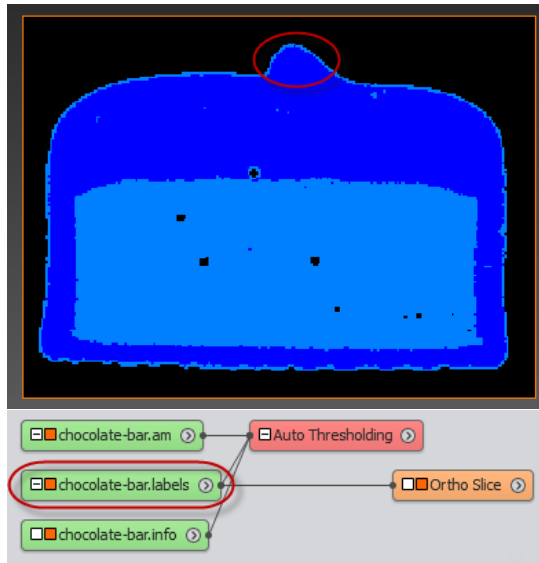
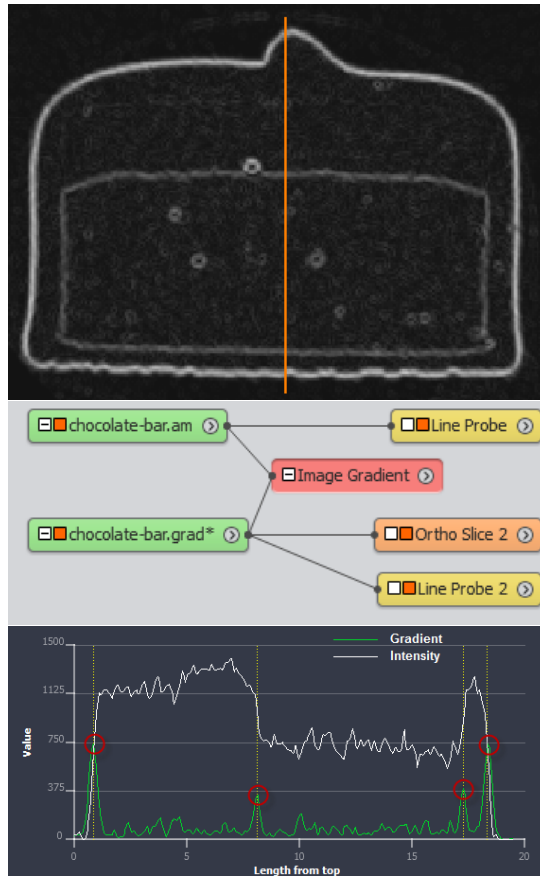
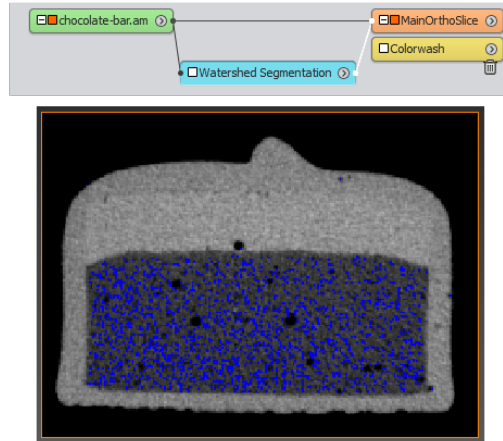

Figure 6.68: Automatically segmenting the image with *Auto Thresholding*.
Figure 6.70: The peaks of *Image Gradient* help to better locate the phase boundaries
Figure 6.75: The *Watershed Segmentation* wizard at step 5.
A mousse layer (light blue) seems to surround the chocolate topping (dark blue): the mousse between the exterior and the chocolate is actually an artifact due to partial volume effect (see Figure 6.68 and Figure 6.69). Adjusting the thresholds will not solve that issue. As illustrated in figure 6.70, the image gradient gives useful hints on actual boundaries. Instead of using direct intensity thresholding, a more robust method is shown in the next section that takes advantage of the image gradient.
- You can use 629-674 as range here. Again, the goal is to mark inner areas of the given material. (see Figure 6.75). If you select a lesser lower range, areas between the air and the chocolate will be selected, and it will result in the same artifact than the one introduced in Figure 6.68.